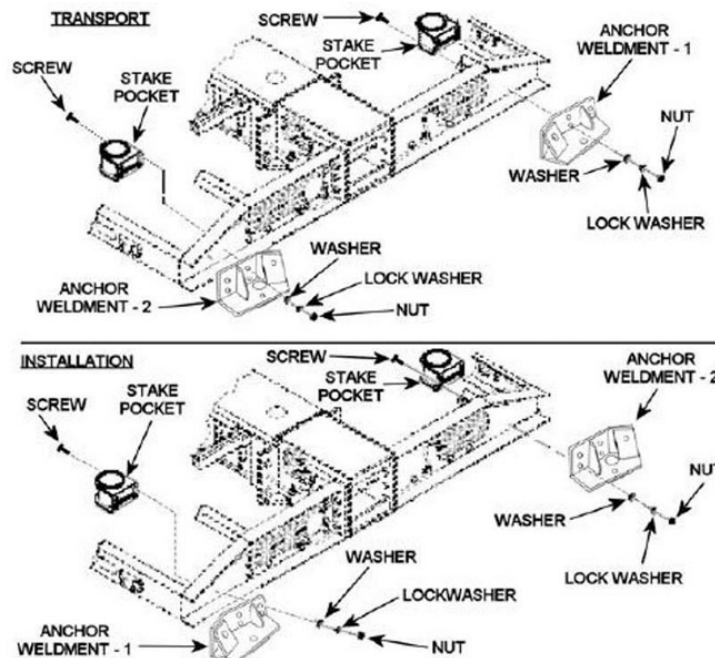

Figure 1-50. Anchor weldment positioning.
2. Remove anchor weldments (9D00283-1 and 9D00283-2) from transport positions shown in figure 1-50. Retain stake pockets and all hardware for re-use.
3. Install anchor weldments (9D00283-1 and 9D00283-2) in the installation positions shown in figure 1-50. Re-install the stake pockets, and secure all in place using the hardware removed in step e. above.